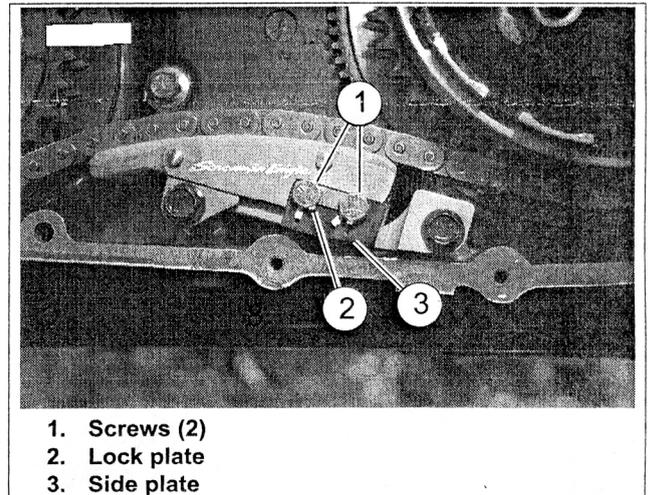

Figure 2. Install Cap Screws to Side Plate and Lock Plate
6. See Figure 2. Install the upper adjuster with shoe. Install the two hex cap screws (1) through the lock plate (2) and the side plate (3) and loosely assemble to upper adjuster.